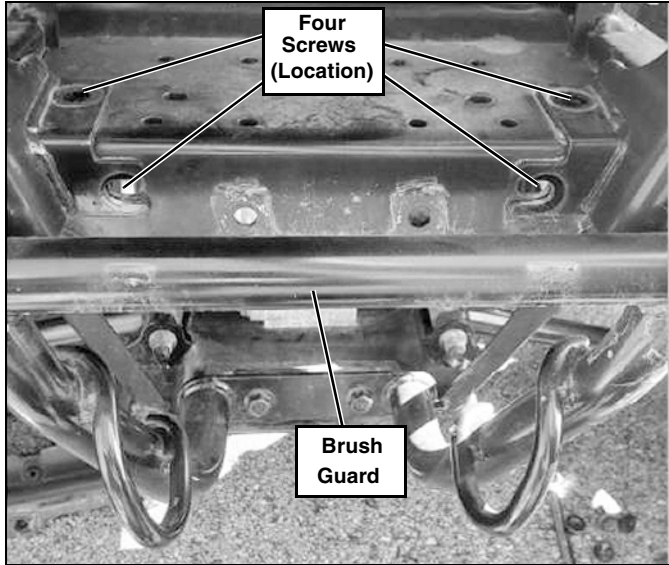

Figure 3
- Remove the 4 screws holding the Brush Guard in place. Slide the Brush Guard straight out from the UTV. (See Figure 3.)